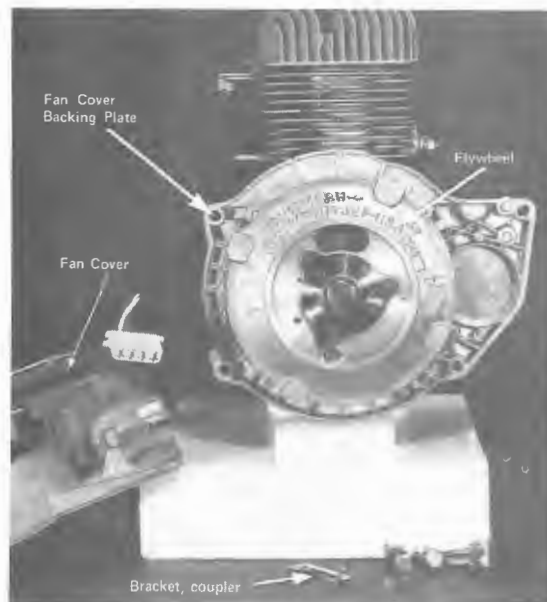

Fig. 5-9 Fan cover backing plate and flywheel installed
5.2.6 Fan Cover Case and Flywheel (See Figure 5-9)